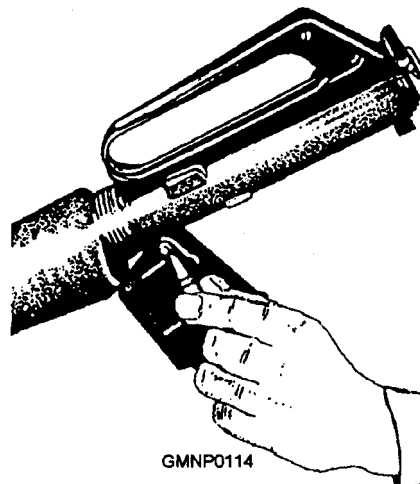
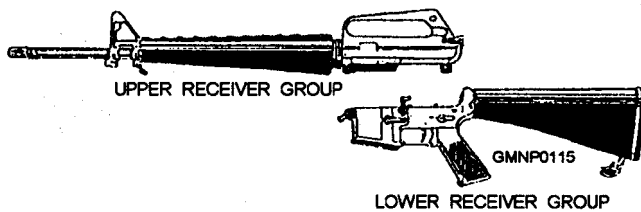

Figure 3-40.—Pressing out the receiver pivot pin.
Figure 3-41.—Upper and lower receiver groups.
3. Again using a punch or the end of a cleaning rod, press the receiver pivot pin (fig. 3-40). Separate the upper and lower receiver groups (fig. 3-41) and place the lower receiver group on the table.